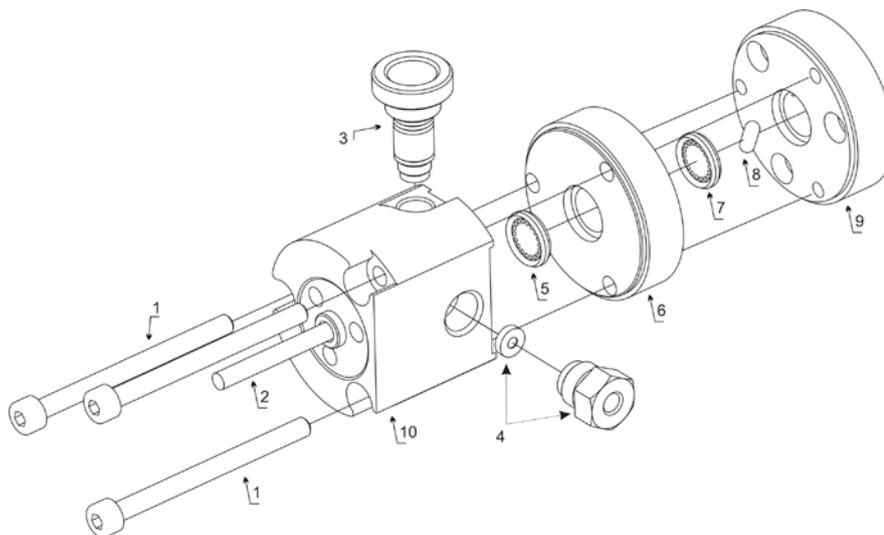

Fig. 60: Outlet unit with mixing chamber and optional extension
5. Remove the installation screws from the outlet unit (→ Fig. 60, no. 1), and then carefully remove the outlet unit (→ Fig. 60, no. 10).
6. Remove the old gasket (→ Fig. 60, no. 7).
7. Place the mixing chamber extension (→ Fig. 60, no. 6) on a flat surface (for example, drip tray). Install the gasket (→ Fig. 60, no. 5) and the outlet unit onto the mixing chamber extension. Insert the long installation screws (shipped with the mixing chamber extension kit) into the openings on the outlet unit.
8. Check that the stirrer (→ Fig. 60, no. 8) is in the mixing chamber. Insert the second gasket (→ Fig. 60, no. 7) into the mixing chamber base (→ Fig. 60, no. 9). If the gasket does not adhere to the base, apply some liquid to wet the seal before insertion.
9. Hold the outlet unit by the extension ring and insert the assembly into the mixing chamber base. Make sure that the seals (→ Fig. 60, nos. 5 and 7) remain in their correct positions.